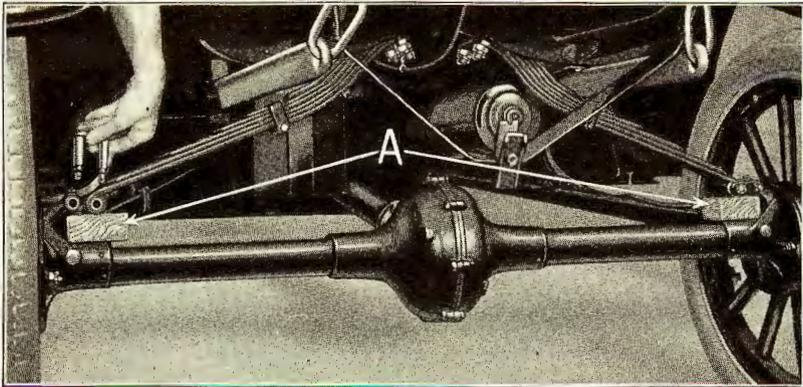

Fig. 366
- 664** To facilitate lining up spring with perch so that hanger on opposite side can be installed a block of wood is placed under each end of the spring allowing the weight of the car to rest on the blocks (See "A" Fig. 366).
- 705 Insert one of the two spring hangers through perch and end of spring. To facilitate installing the other hanger place a block of wood approximately 2" thick under each end of spring in the same manner as the rear springs were blocked (See Fig. 366). This will line up spring with perches so that hanger can be readily inserted.